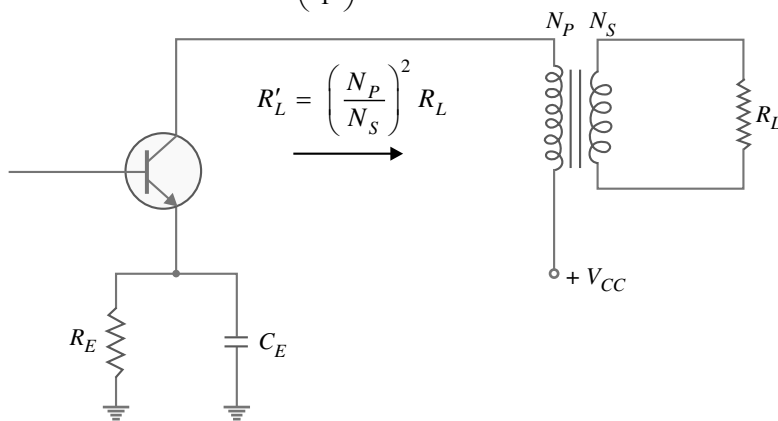

Fig. 9.26
**Applications.** Transformer coupling is mostly employed for *impedance matching*. In general, the last stage of a multistage amplifier is the *power stage*. Here, a concentrated effort is made to transfer maximum power to the output device *e.g.* a loudspeaker. For maximum power transfer, the impedance of power source should be equal to that of load. Usually, the impedance of an output device is a few ohms whereas the output impedance of transistor is several hundred times this value. In order to match the impedance, a step-down transformer of proper turn ratio is used. The impedance of secondary of the transformer is made equal to the load impedance and primary impedance equal to the output impedance of transistor. Fig. 9.26 illustrates the impedance matching by a step-down transformer. The output device (*e.g.* speaker) connected to the secondary has a small resistance  $R_L$ . The load  $R'_L$  appearing on the primary side will be :